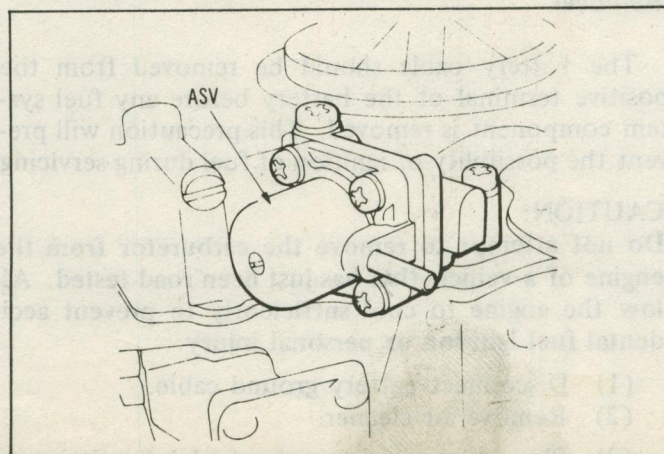

Fig. 23 Removing ASV
(7) Remove the two screws and remove air switching valve (ASV). (Fig. 23)